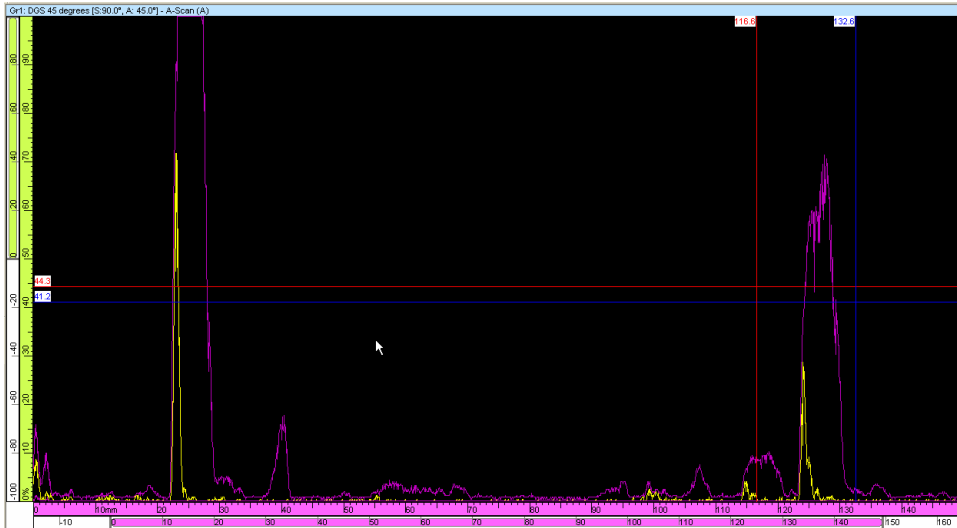

Figure 4-44 Finding the maximum amplitude using the Envelope tool
3. Move the probe on the calibration block to the position of the maximum amplitude echo (see Figure 4-44 on page 270).